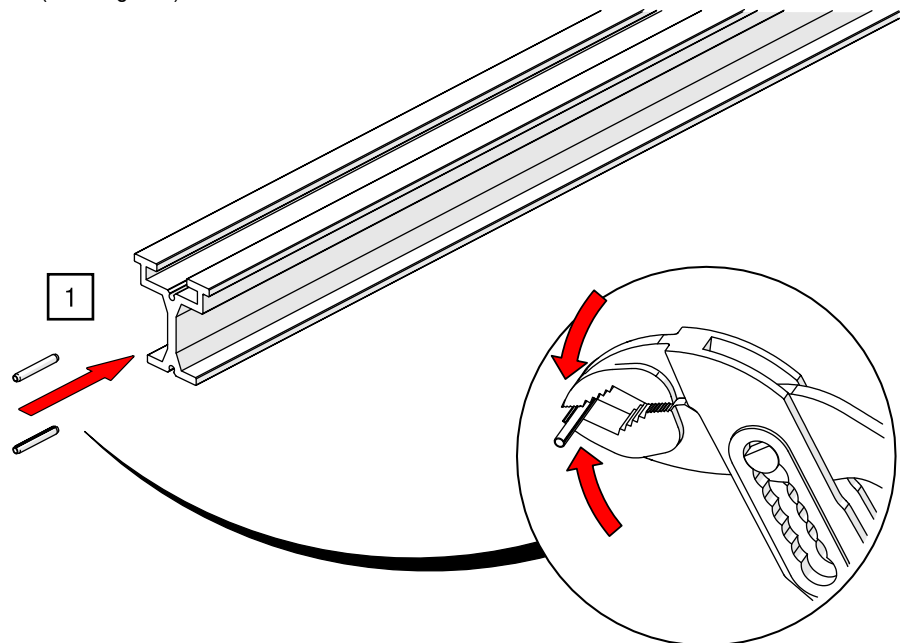

Fig. 42: Track splice – Insert connecting pin into track section
1. Press the connecting pins together slightly conically with a pipe wrench and insert them into the centring holes provided in the profile (see Fig. 42).